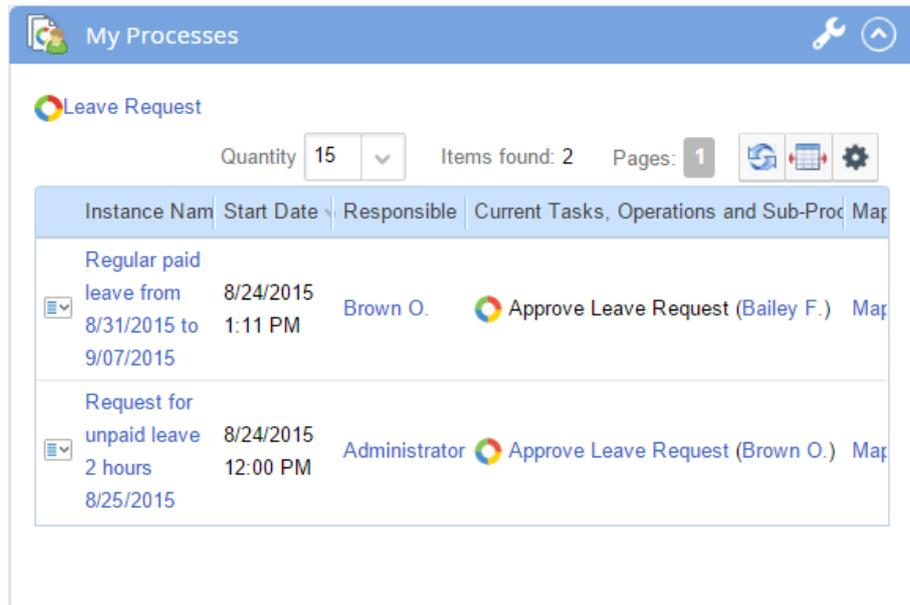

Fig. 102. The My Processes portlet
My Processes portlet has similar functions. You can place this portlet on the main page (Fig. 102).
- in the **My Processes** portlet: the **Map** link for each process instance (Fig. 102).